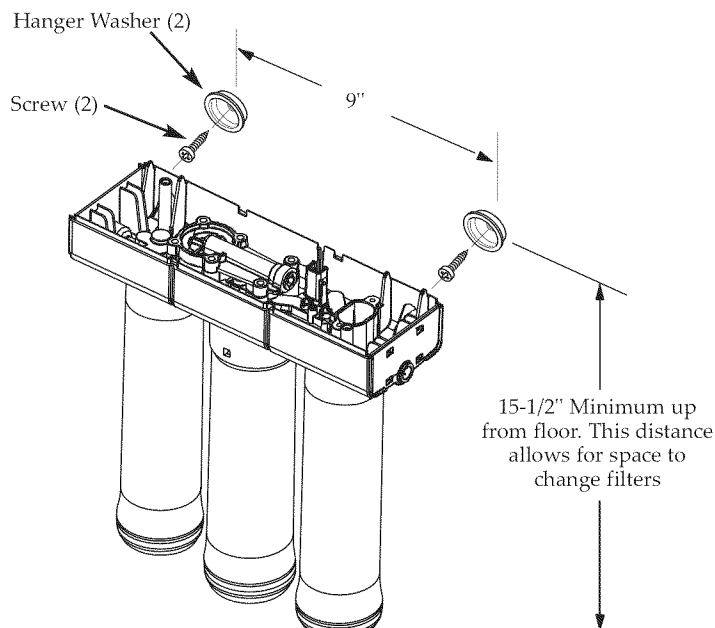

Figure 11
The Reverse Osmosis Filter Assembly is mounted on hanger washers. The hanger washers allow you to lift the filter assembly from the washers without any hardware removal. When planning your installation, you need to leave room for changing filters. See Figure 11.
2. Locate mounting slots on back of the assembly. See Figure 11.